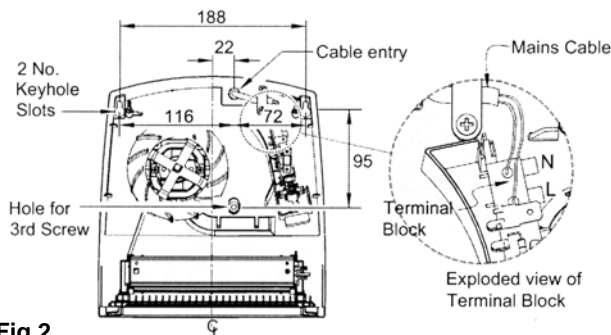

Fig.2.
The appliance is secured to the wall with three screws, two through keyhole slots and one through a centrally positioned lower hole to hold the appliance firmly in position (see Fig. 2).
7. Make electrical connections to the terminal block ensuring that the live connection is made to the terminal marked 'L' and the neutral connection to the terminal marked 'N' (see Fig. 2 exploded view).